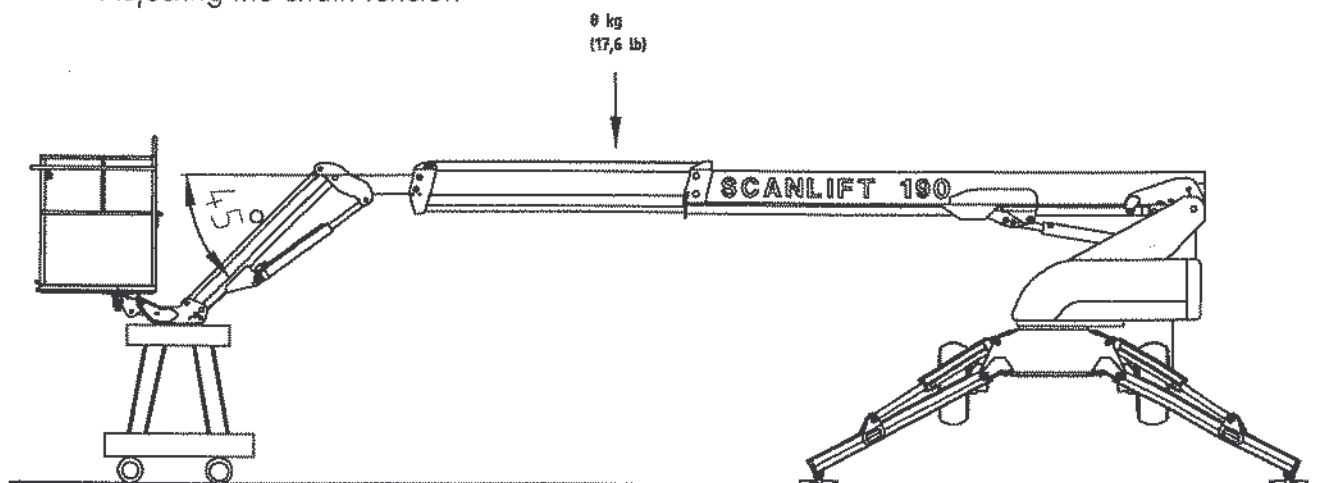

Figure 29.2 Adjusting tension of the boom extension chain
1. Support the MEWP on the outriggers with the wheels raised slightly off the ground. Raise the jib boom to an angle of 45° (refer to figure 29.2). Lower the platform to the ground and get off the platform.